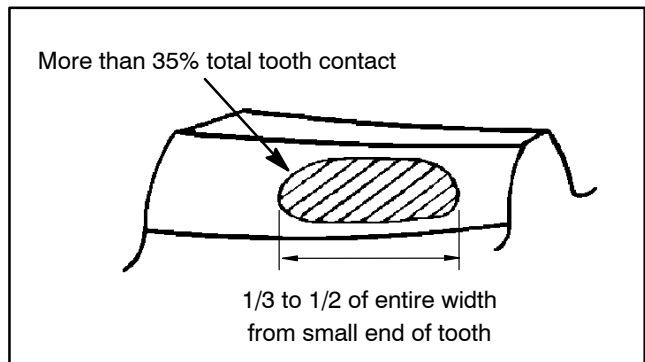

Figure 43
9. Ideal tooth contact should cover more than 35% of each tooth surface. The contact area should be in the center of each tooth and extend 1/3 to 1/2 way across each tooth from the toe (small) end (Fig. 43).